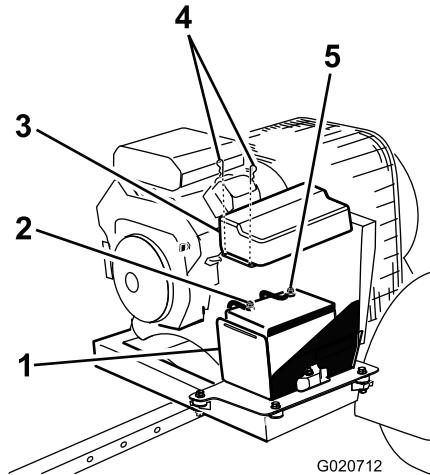

Figure 5
3. Attach the negative cable (black cable) to the negative (-) terminal of the battery (Figure 5).
2. Attach the positive cable (red cable) to the positive (+) terminal (Figure 5).